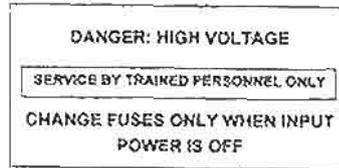

Figure 1-23. High voltage danger decal.
(9) A decal (located on the plastic electronics cover inside the ES apparatus) providing safety information is depicted in figure 1-23.